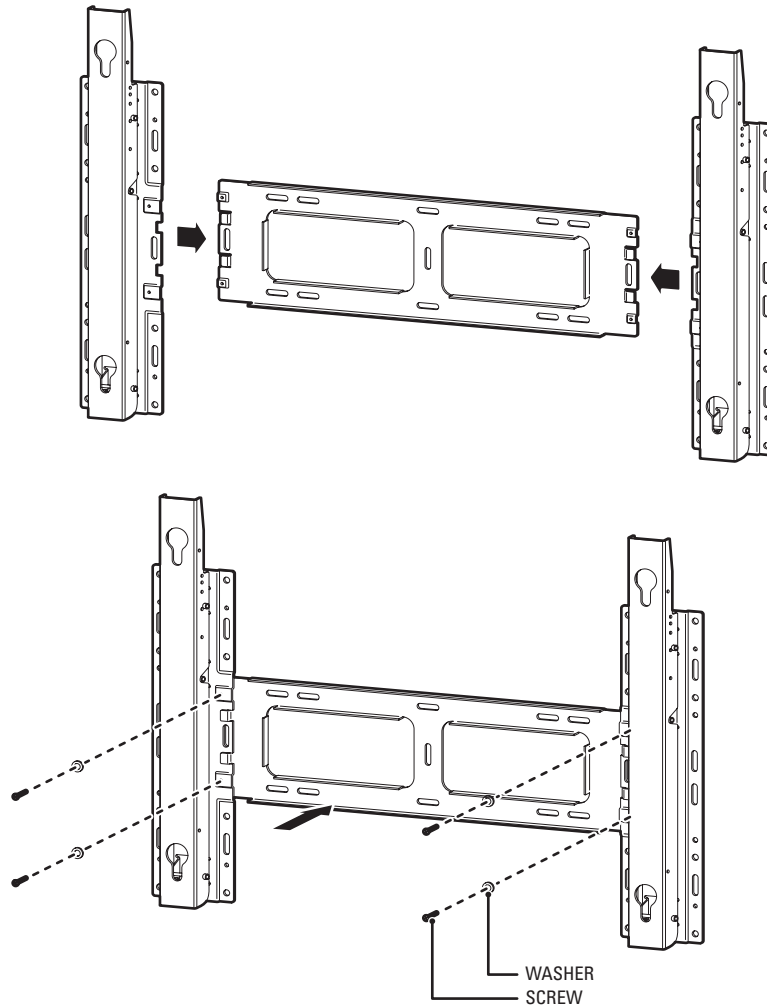

Figure 1. Tilt Wall Mount Bracket Assembly
1. The wall mount bracket comes disassembled. Install the four short screws (included) and washers (included) in the direction shown by the arrows in Figure 1. Then tighten.